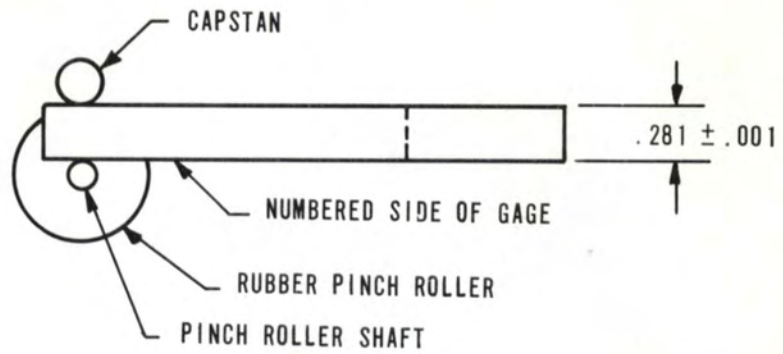

FIG. 5-8
A suitable gauge is described in Figure 5-8. If it is determined that solenoid adjustment is needed proceed as follows:
- c) Turn the set screw on rear of solenoid in about three turns. Press the START switch and insert the 815-0842 gauge between the capstan and end of the pinch roller shaft as shown in Figure 5-8. Adjust the set screw until the gauge slips between the capstan and the pinch roller shaft with little or no side play.